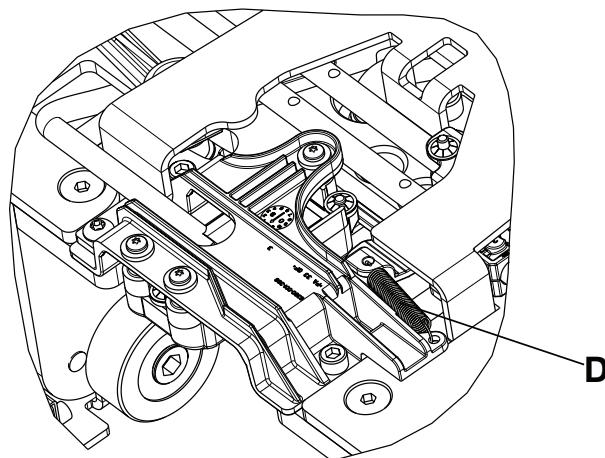

Figure 27 – Return spring location
5. Remove and save the return spring (D) (Figure 27).